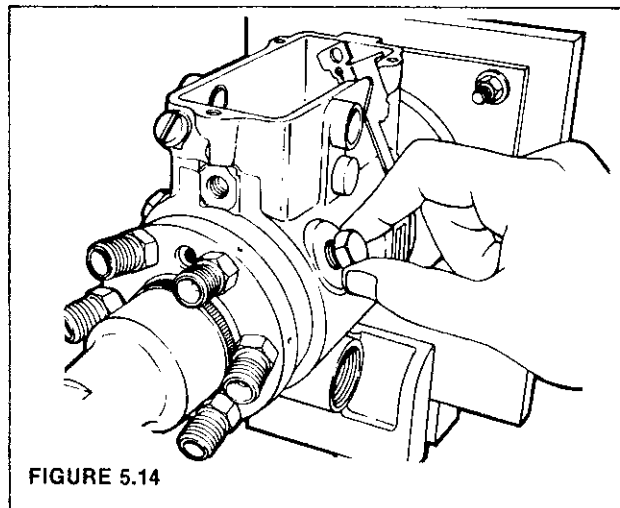

FIGURE 5.14
STEP 14 Rotate the head assembly until the head locking screw holes line up with their corresponding holes in the housing. Insert the two head locking screws finger tight (Figure 5.14). Do not tighten with a wrench until STEP 27.